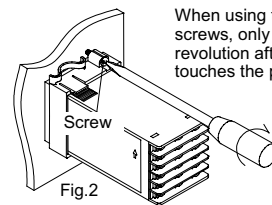

Fig.2
- Fix the instrument to the panel by using the two screws. (Fig.2)